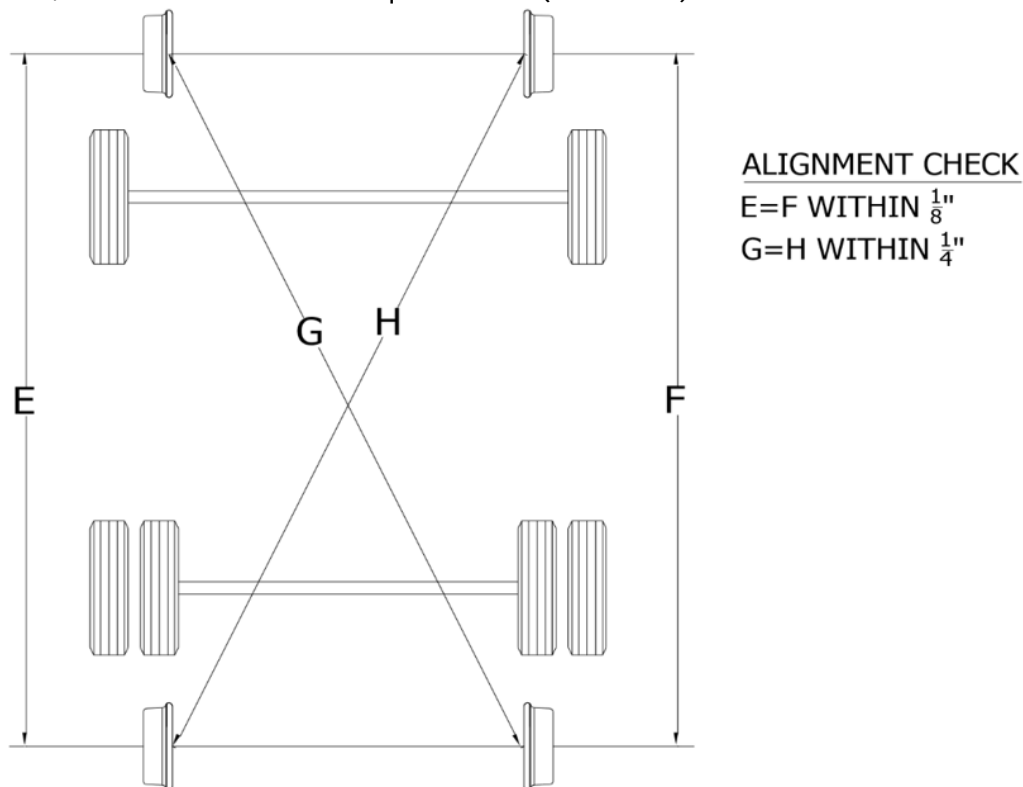

FIGURE 7-1
1. The distance from the Front Rail Wheel to the Rear Rail Wheel on each side in figure 7-1, distance "E" must equal to "F" (within 1/8").
In figure 7-1, distance "G" must be equal to "H" (within 1/4")